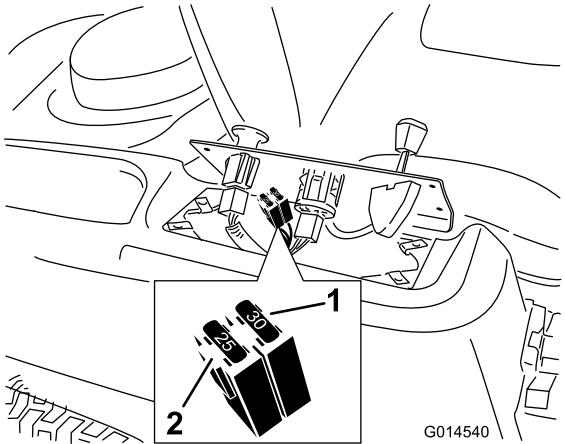

Figure 41
2. Lift the control pane up to access the main wire harness and fuse block (Figure 41).
3. To replace a fuse, pull out on the fuse to remove it (Figure 41).